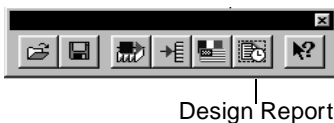

Figure 6-5. Design Report Button
1. **Click the Design Report button on the Shortcut toolbar, as shown in Figure 6-5.**